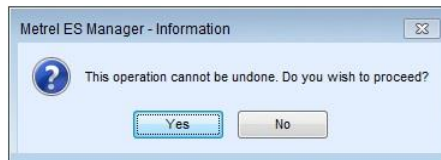

Figure 7.7: Paste as same confirmation information window
- **No equal unique identifications:** procedure continue with confirmation window, **Figure 7.7**